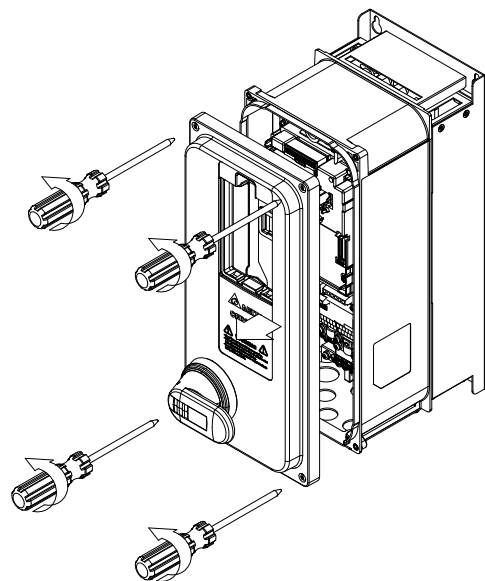

Figure 6-8
- 2) Loosen the screws and press the tabs on both sides to remove the cover. (As shown in Figure 6-8)